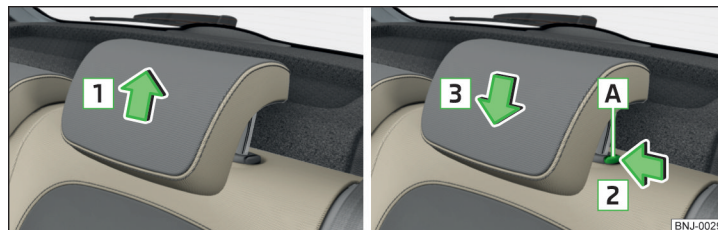

Fig. 73 Setting the height of the back headrest
- Grasp the headrest and move **upwards** in the direction of arrow **1** » Fig. 73.